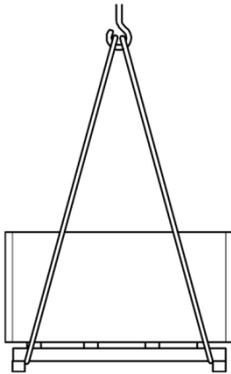

Fig. 19: lifting gear
- 1 Sling on ropes, belts accordingly (Fig. 19) to the pallet and secure pallet against slipping.